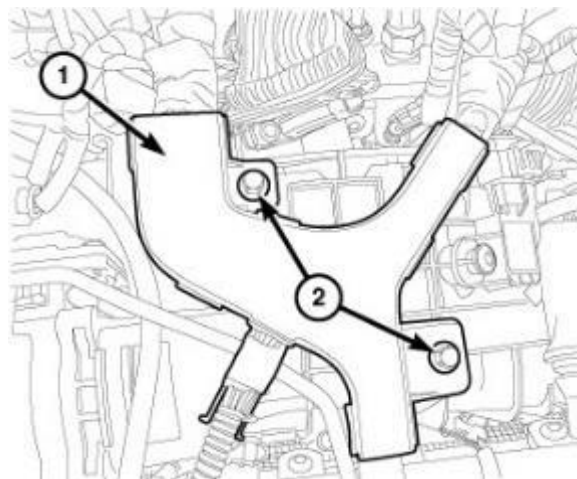

Figure 16 – Engine Wiring Harness
10. Remove the bolts (2) and pull up on the engine wire harness assembly (1) to release retainers from the intake manifold (Figure 16).